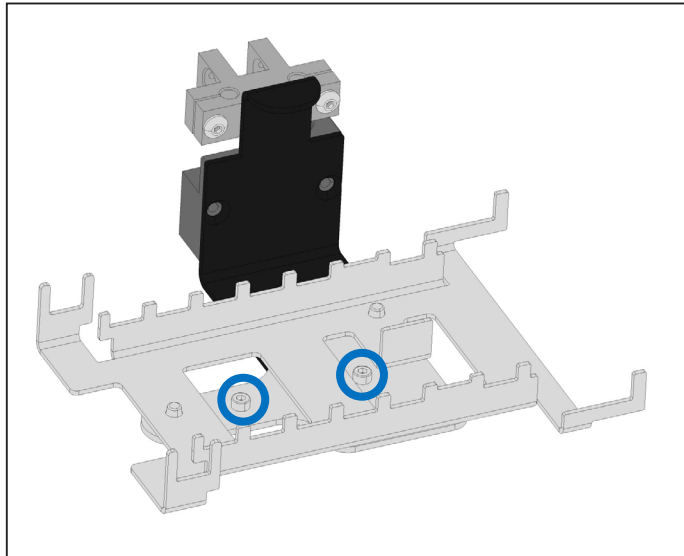

Figure 66: The Strip timer comb adjusting screws
- 1 Loosen one or both of the 2-millimeter hex socket screws that secure the strip timer comb's bottom plate to the bracket plate connecting the conveyor and the strip timer train (see Figure 66).